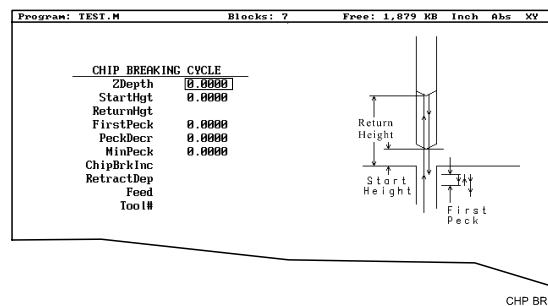

Figure 4-4, CHIP BREAKING CYCLE Graphic Menu
2. Highlight **Chip Break** and press **ENTER** to display the **CHIP BREAKING CYCLE** Graphic Menu. Refer to **Figure 4-4**.